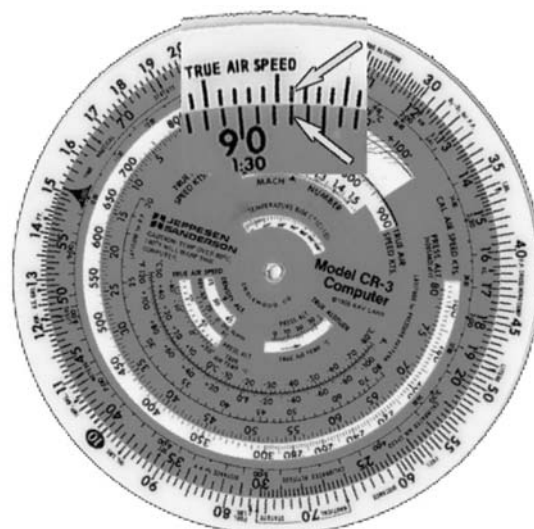

Figure 4.3-35 Fuel Conversion 8
3. Find 93 (93 seconds) on the TIME (inner) scale and read the amount of total pounds on the POUNDS (outer) scale. (Figure 4.3-35)